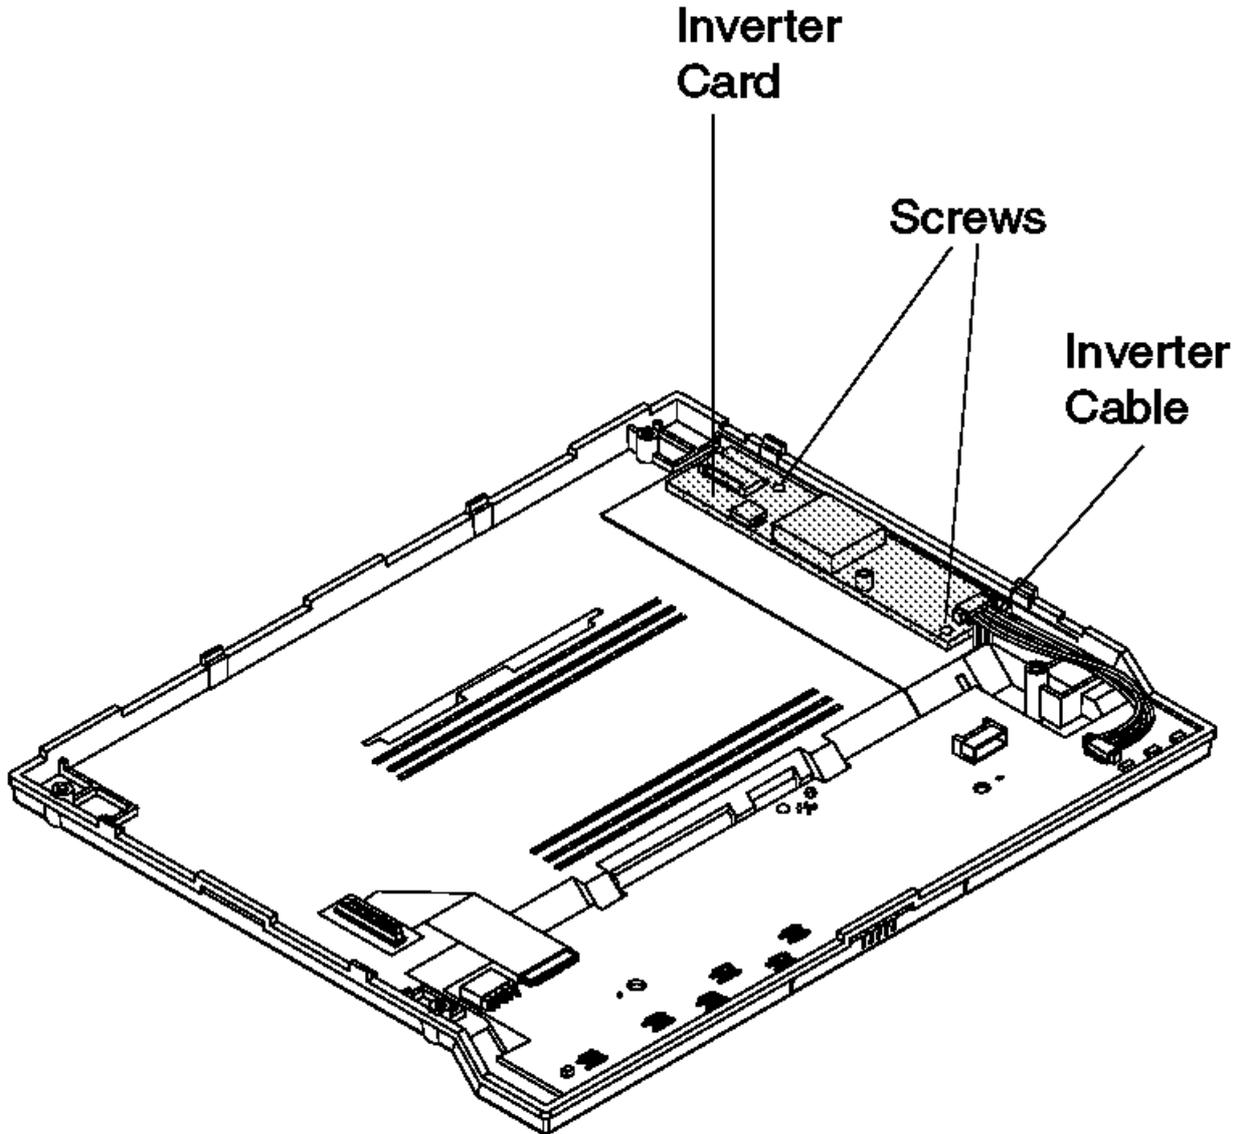

Figure 3-20. Removing the Inverter Card
3. Remove the inverter card. See Figure 3-20.